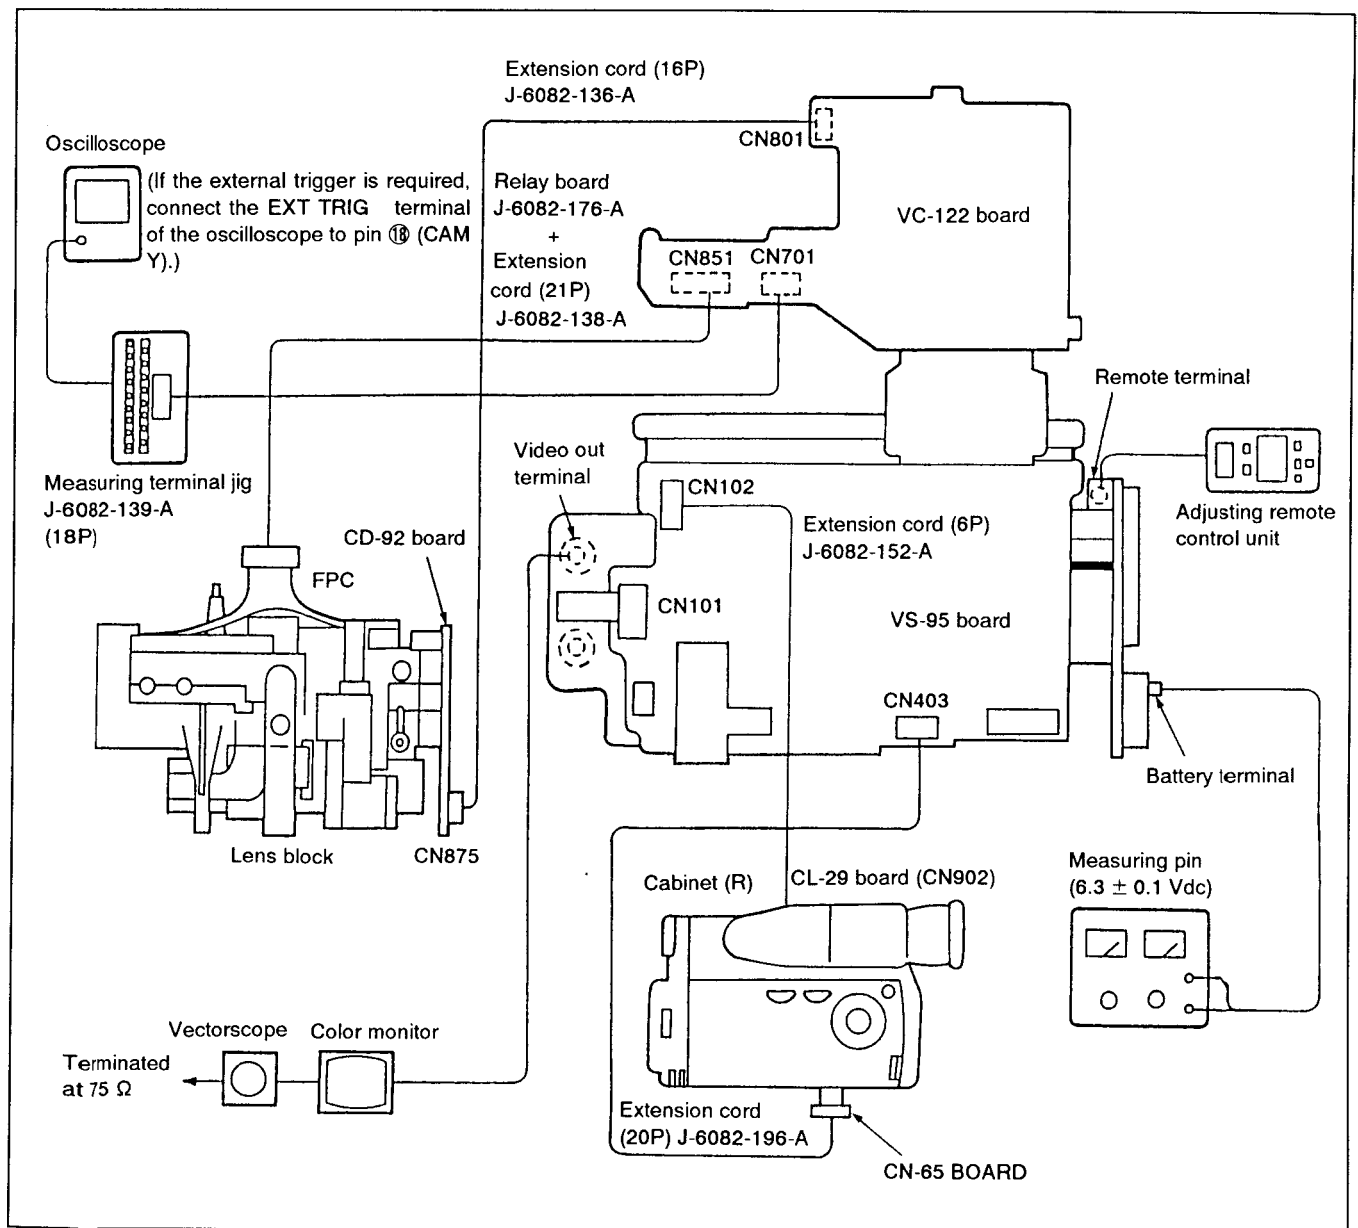

Fig. 7-3.
- 1) Connect the equipments for adjustment as shown in Fig. 7-3.